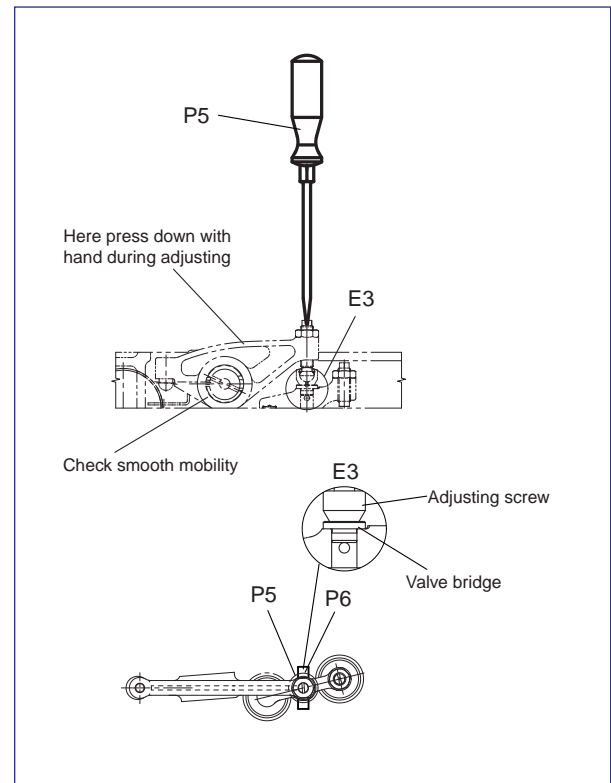

Fig. 3.
- 2) Insert the feeler gauge (P6), see figure 3.
- 4) Tighten the adjusting screw with P5, see figure 3, until the feeler gauge is fixed without clearance.